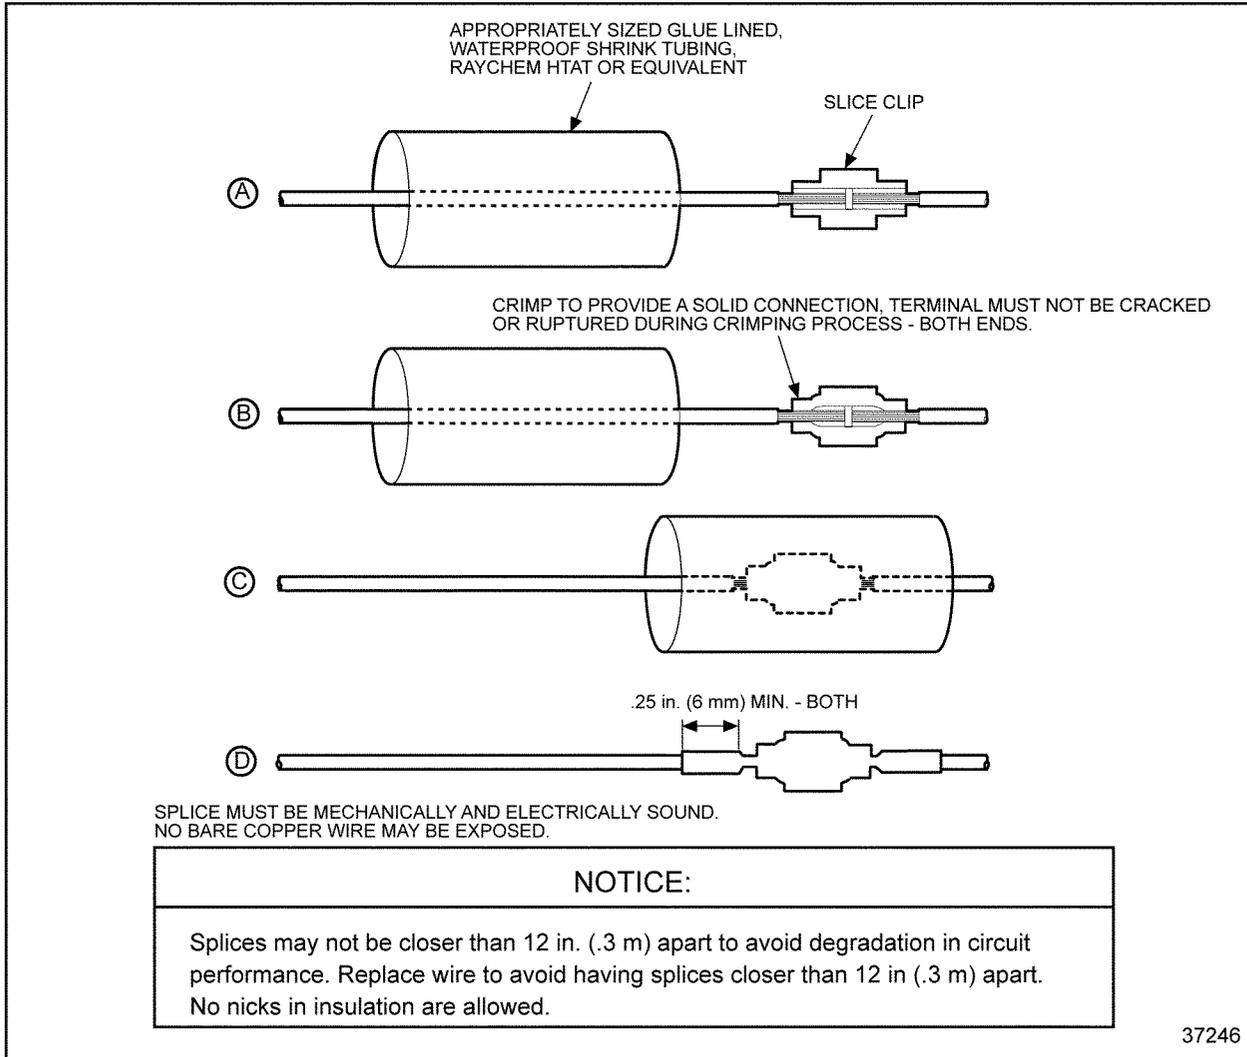

Figure 3-23 Splicing Straight Leads - Alternate Method 2
3. Slide a sleeve of glue lined, shrink tubing (Raychem HTAT or equivalent) long enough to cover the splice clip on the wire and overlap the wire insulation, about .25 in. (6 mm) on both sides (see Figure 3-23, A).
4. Insert one wire into splice clip until it butts against the splice clip. Stop and crimp (see Figure 3-23, B).
5. Insert the remaining wires into the splice clip one at a time until each butts against the splice clip; stop and crimp (see Figure 3-23, B).
7. Slide the shrink tubing over the crimped splice clip (see Figure 3-23, C).
8. Shrink tubing with a heat gun to seal the splice (see Figure 3-23, D).